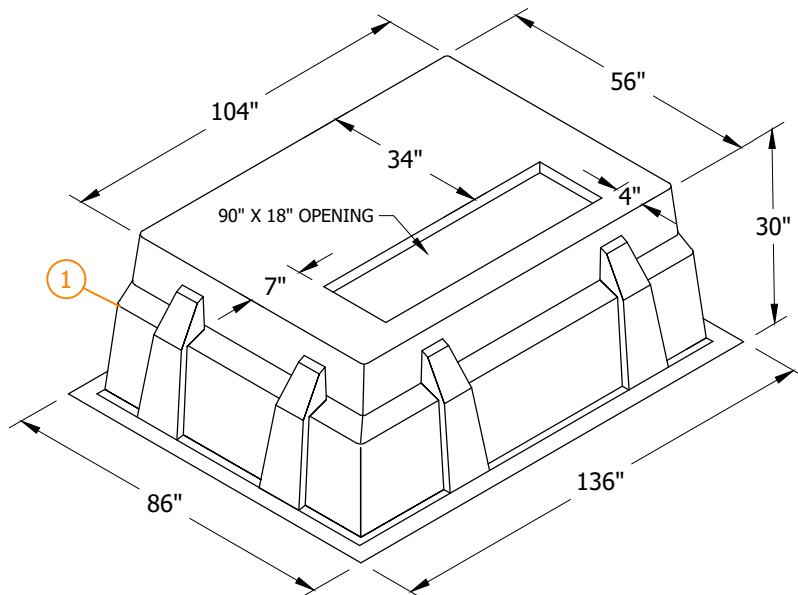

FIGURE 1
02/02/2026: FIG 1, TABLE 1 (FG) MOVED TO FMO